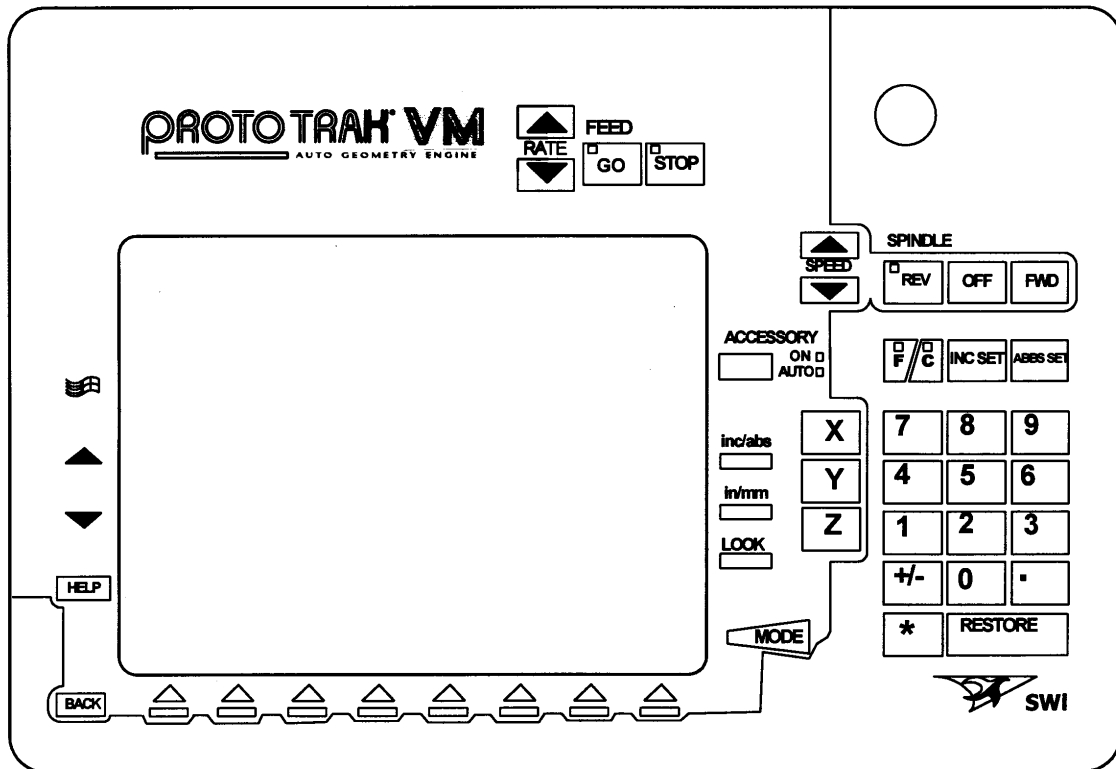

FIGURE 3.1 The ProtoTRAK VM front panel and hard keys
3.1 Display Pendant Front (see Figure 3.1)